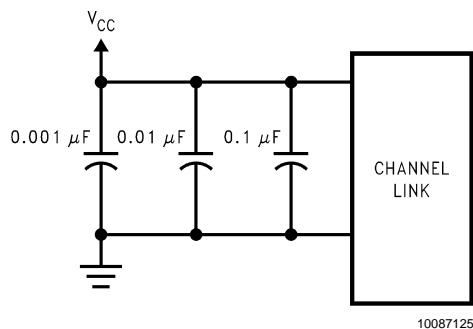

FIGURE 11. CHANNEL LINK Decoupling Configuration
**DECOUPLING CAPACITORS:** Bypassing capacitors are needed to reduce the impact of switching noise which could limit performance. For a conservative approach three parallel-connected decoupling capacitors (Multi-Layered Ceramic type in surface mount form factor) between each  $V_{CC}$  and the ground plane(s) are recommended. The three capacitor values are  $0.1 \mu\text{F}$ ,  $0.01 \mu\text{F}$  and  $0.001 \mu\text{F}$ . An example is shown in Figure 11. The designer should employ wide traces for power and ground and ensure each capacitor has its own via to the ground plane. If board space is limiting the number of bypass capacitors, the PLL  $V_{CC}$  should receive the most filtering/bypassing. Next would be the LVDS  $V_{CC}$  pins and finally the logic  $V_{CC}$  pins.